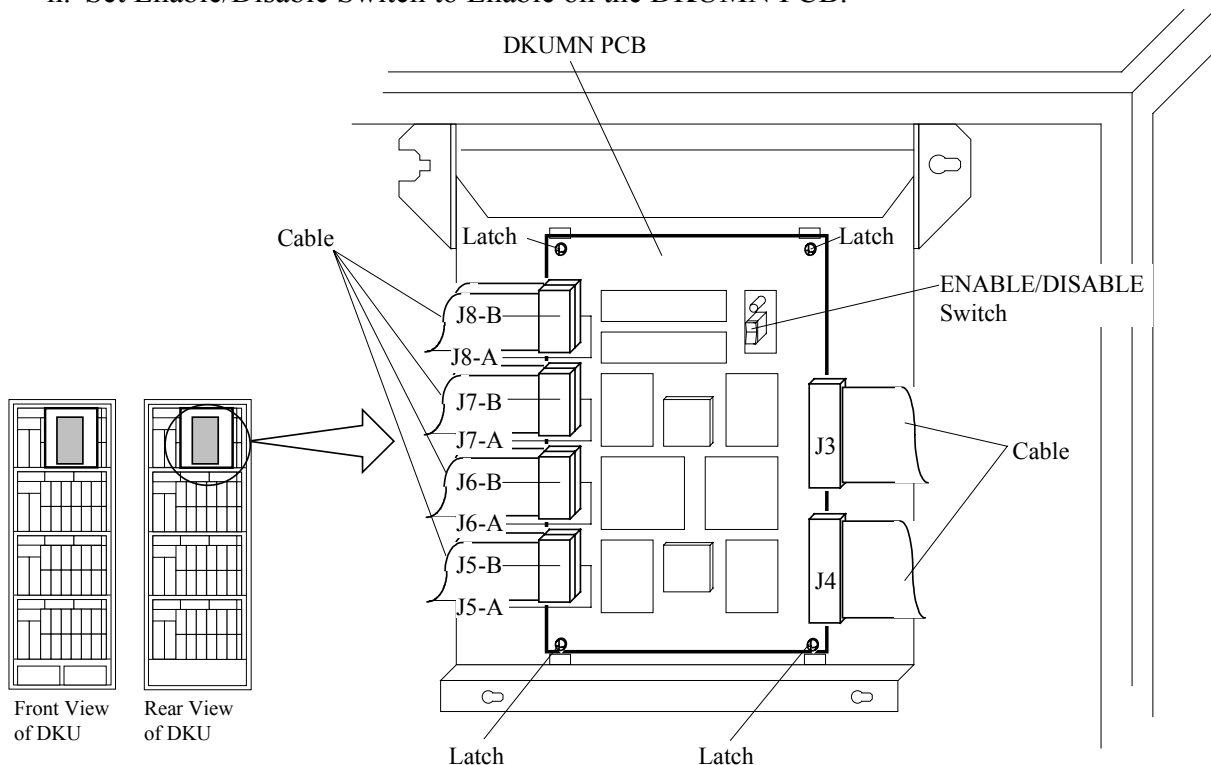

Fig. FT2-1 Replacement of DKUMN PCB
1. The following figure (Fig. FT2-1) and table (Table FT2-1) show the correct way to replace the DKUMN PCB.